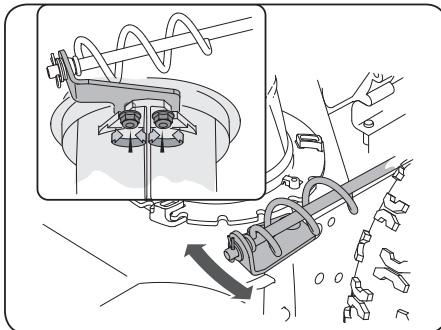

Figure 2-43
1. Loosen two nuts (a) which secure chute bracket and reposition it slightly. See Figure 2-43.